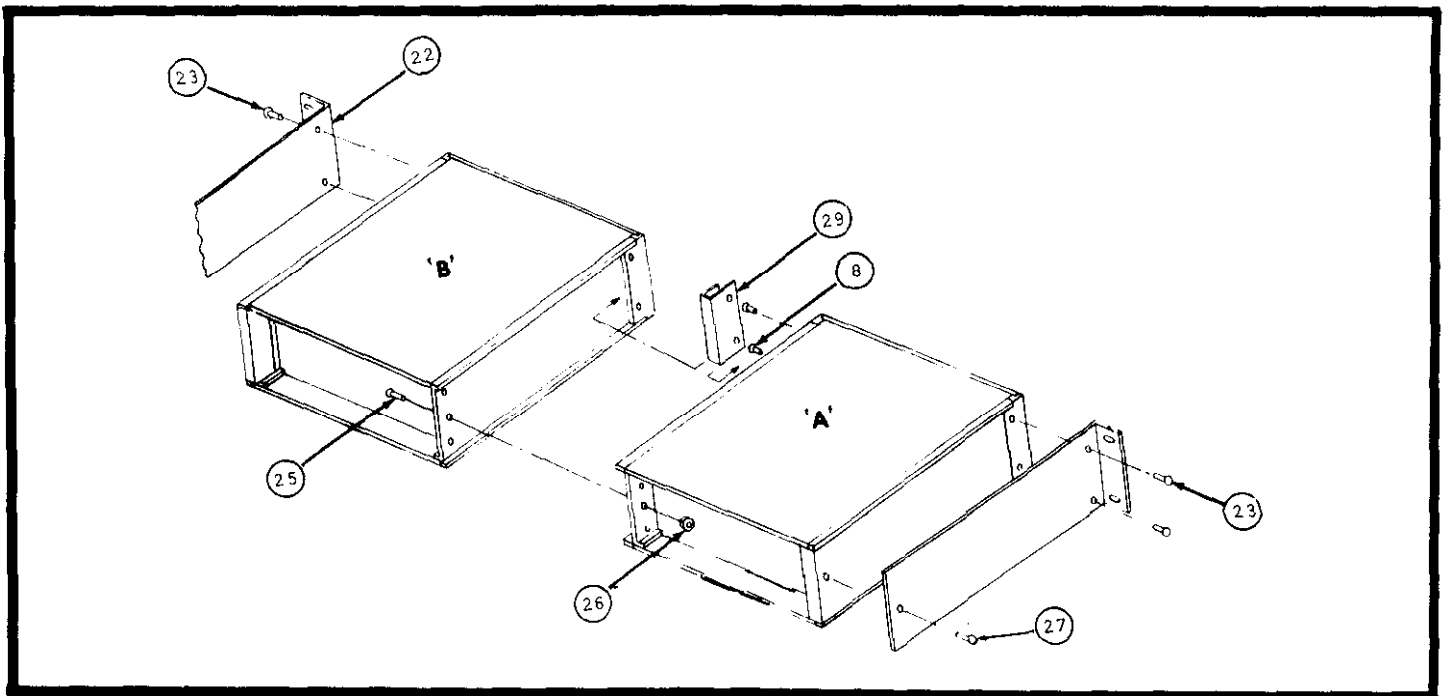

FIGURE 16. Model 1007 Dual Rack Mounting Kit.
d. How to Select Vext Using Internal Jumper. The Model 1722 may be wired for use with internal or external voltage references and internal pull-up resistors. (See Figure 16.)
Assembly Instructions: (Refer to Figure 16)